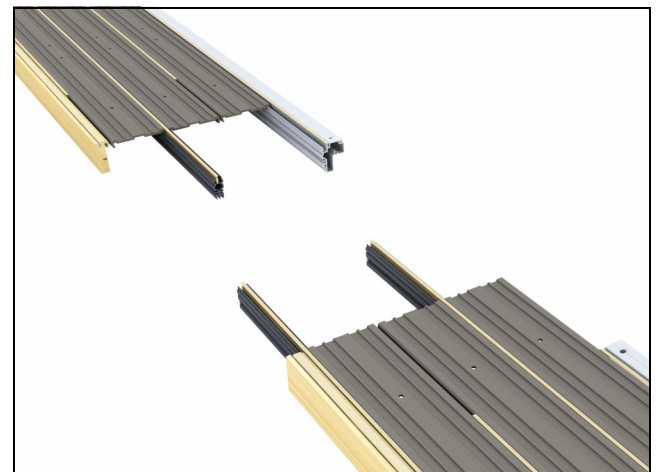

Figure 21
3. Flip the head jamb sections over so the top side is facing up. See figure 21.